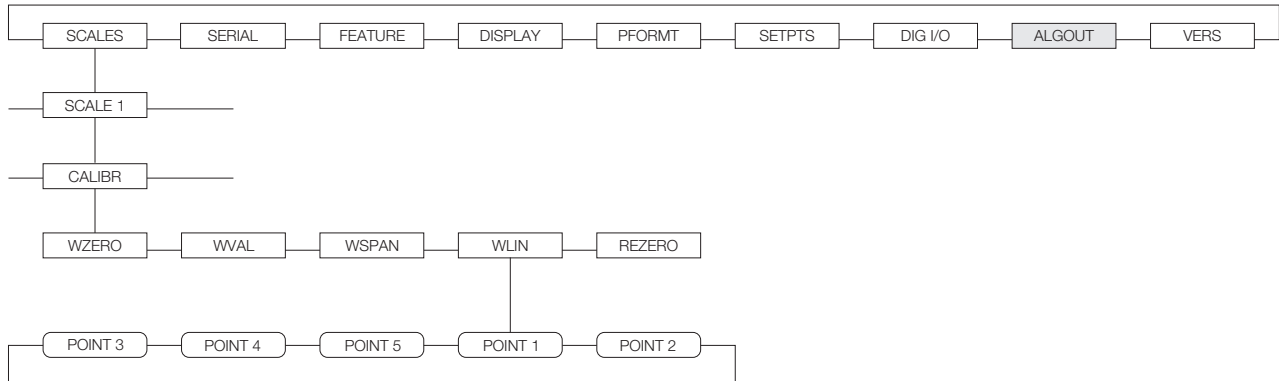
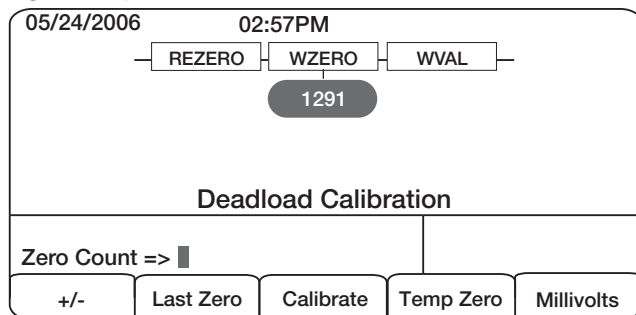

Figure 4-1. Calibration (CALIBR) Submenu
Figure 4-2. WZERO Calibration Display
The CALIBR submenu (under the SCALES menu, see Figure 4-2) is used to calibrate the 820i.
2. With the *SCALES* menu highlighted, press the **down** key, then select the scale to be calibrated. Press **down** again (*GRADS* parameter highlighted), then press **left** to highlight the *CALIBR* submenu (see Figure 4-1). Press **down** to go to zero calibration (*WZERO*). See Figure 4-2 on page 48.